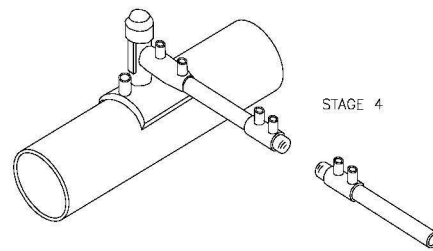

Figure A41 - PE service capped off
5. Fit electrofusion caps to both ends of service pipe. Figure A41.
6. Fit an electrofusion caps to both ends of service pipe. Figure A41.